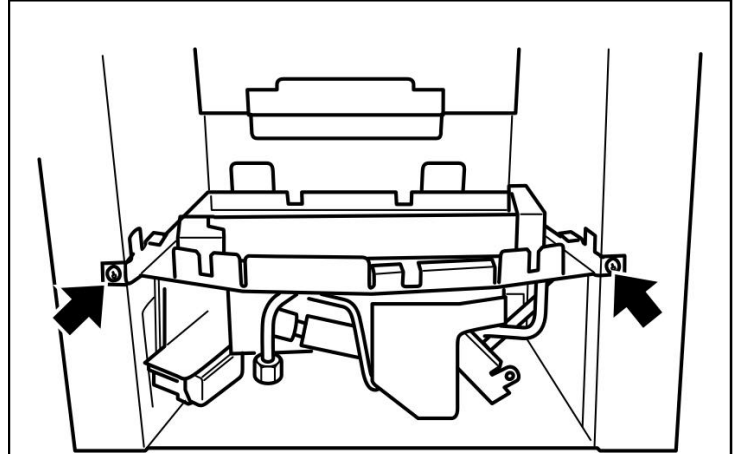

Figure 43. Burner attachment points (Burner detail may differ from that shown)
4. Detach the burner unit from the hotbox by removing two screws (See figure 43).